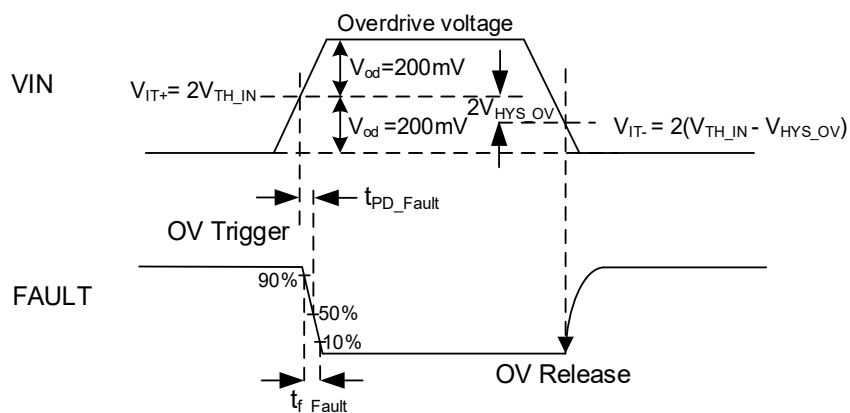

Figure 6.2 Propagation Delay and Output Fall Time Definition for Protection Comparator
(1) The temperature drift is calculated within the whole temperature range (-40°C to 125°C).
(2) Input referred.
(3) THD is defined as the ratio of the sum of the rms value of first five higher harmonics to the amplitude of the fundamental (input referred).
(4) V_{IT+} is the positive-going trip threshold (refer to input voltage), refer to Figure 6.2 for detail.
(5) V_{IT-} is the negative-going trip threshold (refer to input voltage), refer to Figure 6.2 for detail.